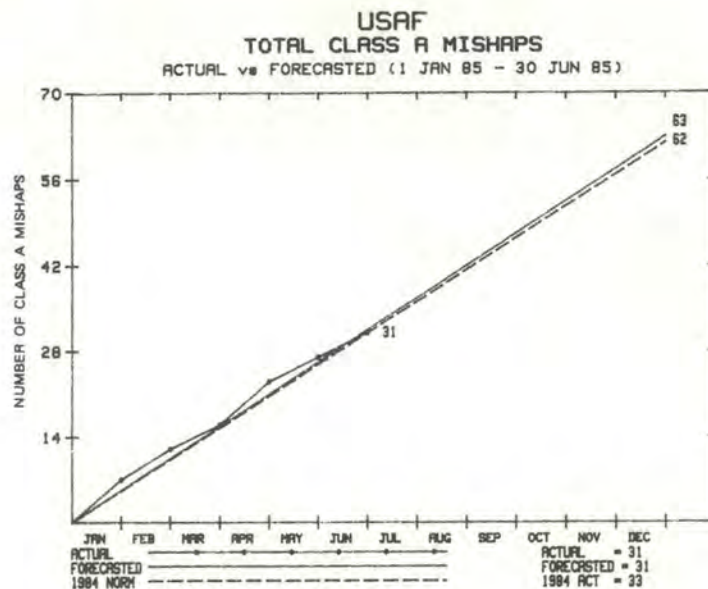
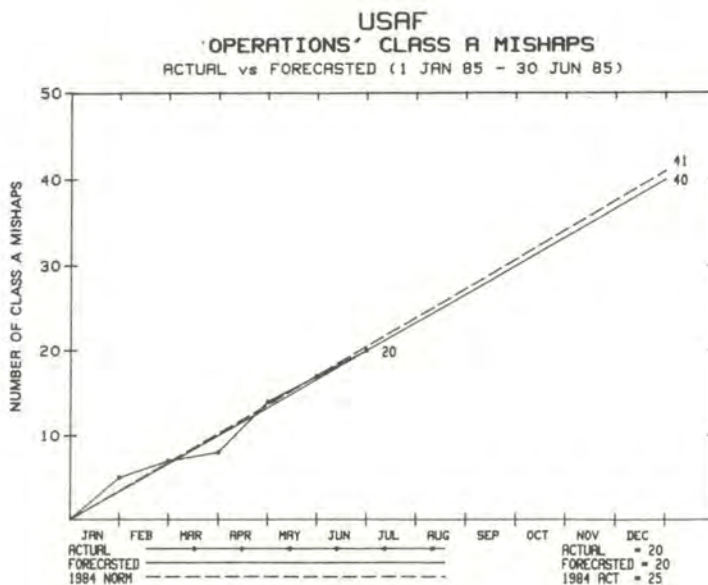

Figure 3
Figure 4
I have mentioned some of our mishap experience for the first half of 1985. Figure 3 shows how we are doing overall, and Figures 4 and 5 show the breakdown of ops and log mishaps. As you can see, we are doing fairly well in the log category, but the ops and totals are right on the prediction line. We definitely can improve here.
"Kinematic" coupling occurs if an aircraft is rolled rapidly about the longitudinal axis, as shown in Figure 3. What was AOA (a) becomes
sideslip (B), triggering roll due to yaw. Aircraft don't roll purely about their longitudinal axis, so the results are mixed with inertial coupling. To understand inertial coupling, imagine an aircraft represented by a system of weights, as shown in Figure 4. The fuselage is represented by large masses near the nose and tail, the wing by smaller masses near the wing tips. If the aircraft is rolled rapidly about the flight path (velocity vector), the masses in the fuselage will overpower the smaller wing masses and will pull the nose and tail away from the flight path. This is an example of roll coupling into pitch and is dominant at high speeds and is the reason many fighters are prohibited from continuous 360° rolls. (A more indepth explanation of this whole subject is presented in an article titled "Whiffoerills, Divergences, and Other Roll Coupling Phenomena" by MCAIR project test pilot Larry Walker in *Aerospace Safety*, April 1980.)